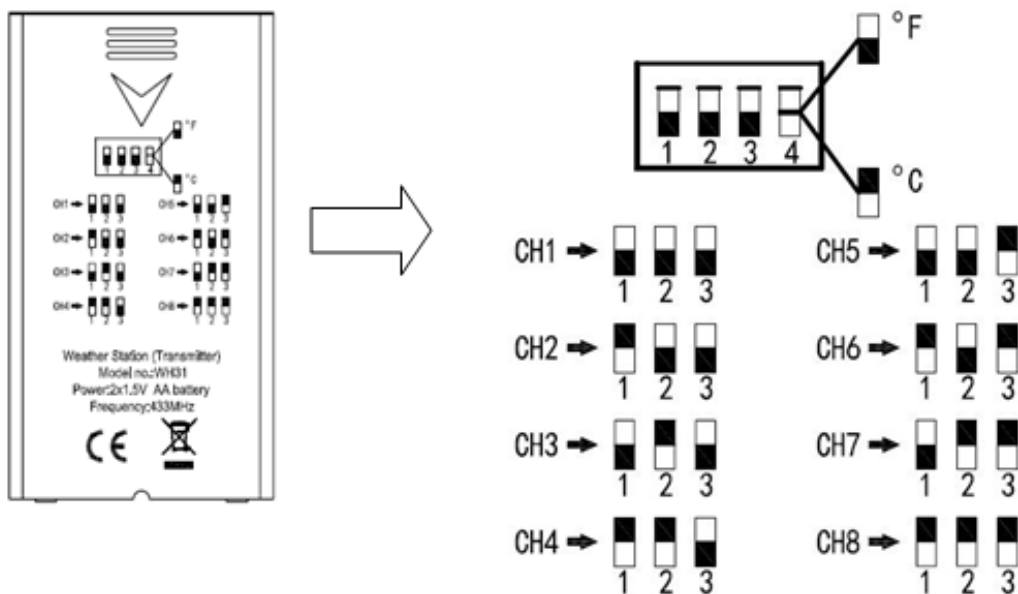

Figure 18
3. **Channel Number:** The WS-5000 supports up to eight transmitters. To set each channel number (the default is Channel 1), change Dip Switches 1, 2 and 3, as referenced in Figure 18.
4. **Temperature Units of Measure:** To change the transmitter display units of measure ($^{\circ}\text{F}$ vs. $^{\circ}\text{C}$), change Dip Switch 4, as referenced in Figure 18.